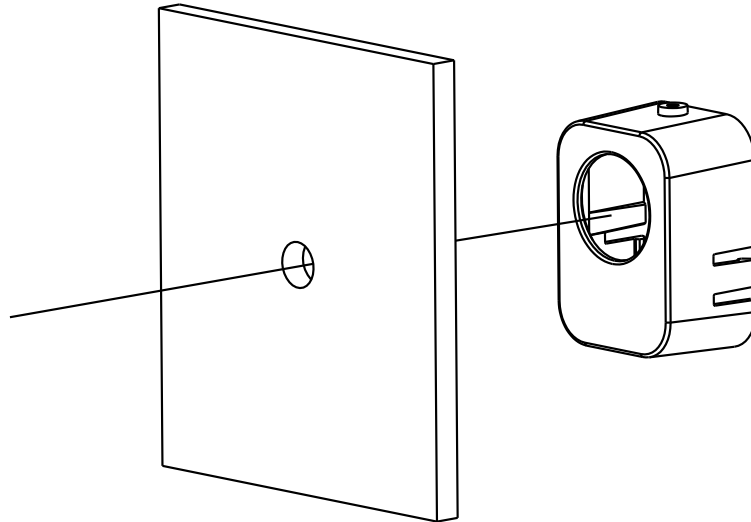

Figure 4-47 Paste the Bracket
2. Remove a side of the adhesive tape on the bracket. Paste the bracket on the mounting surface with aligning with the drilling hole. As shown in Figure 4-47.